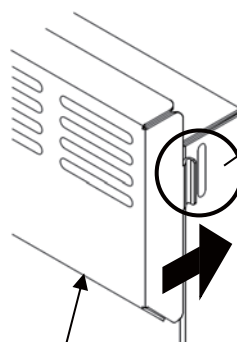

Fig. 3
4. Pull out the N₂/O₂ gas injection nozzle and N₂/O₂ gas injection nozzle tube (Fig. 3).
Note: When installing the fan cover, align the long hole of duct with the projection of the fan cover and push until it clicks into place (Fig. 3). The same applies for the humidifying pan cover.